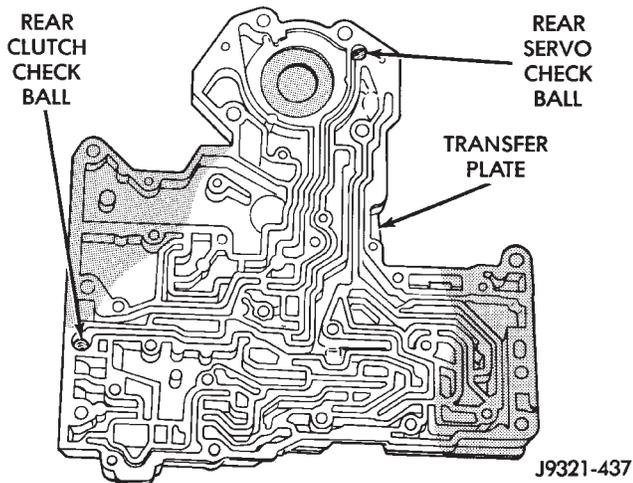

Fig. 95 Rear Clutch And Rear Servo Check Ball Locations
- (1) Install rear clutch and rear servo check balls in transfer plate (Fig. 95).